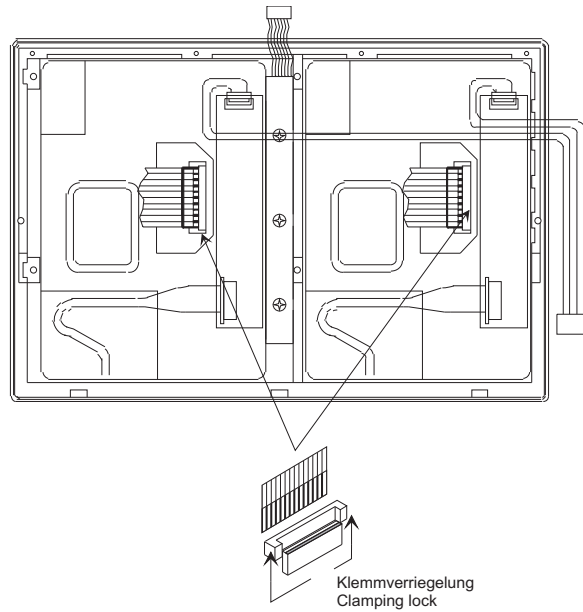

Fig. 8-16: Removal of the flat cable from the display unit
7. Loosen the locker of the flexible flat cables at the display units. Remove flat cables. Avoid damage of the flat cables because of canting. (fig. 8-16)